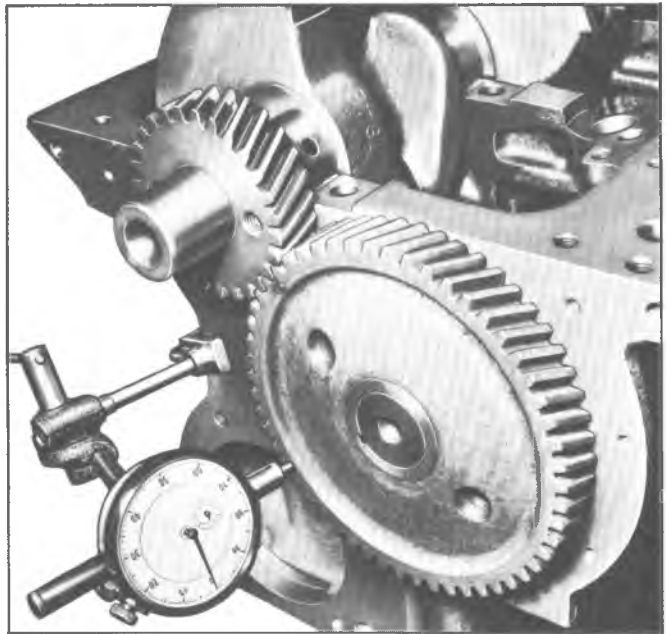

Fig. 8—Checking Timing Gear Runout
- b. Check camshaft and crankshaft gear run out with a dial indicator (fig 8). The camshaft gear run out should not exceed .004", and the crankshaft gear run out should not exceed .003".